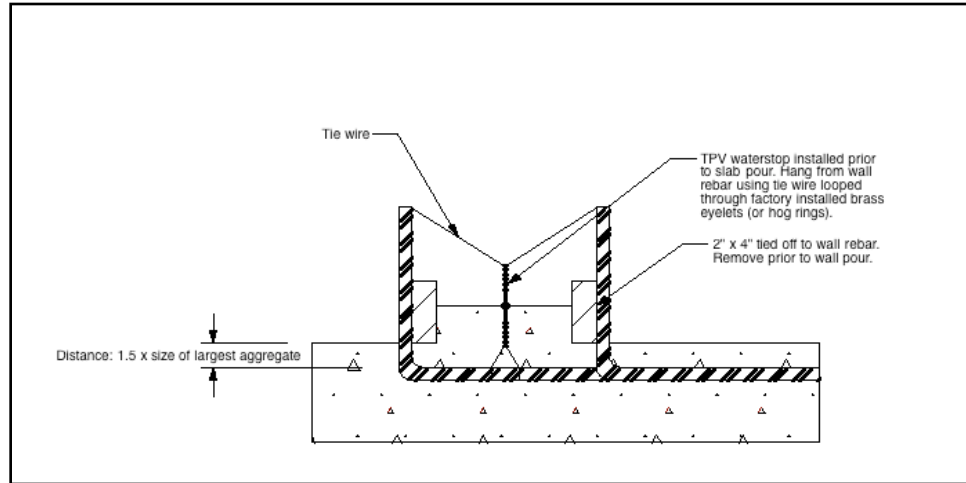

Figure 2 — Typical Starter Wall Detail
- E. Secure waterstop in correct position using optional factory-installed brass eyelets (See Figure 1, or JPS hog rings crimped between last two ribs on 12 inch maximum centers), and wire tie to adjacent reinforcing steel (See Figure 2).